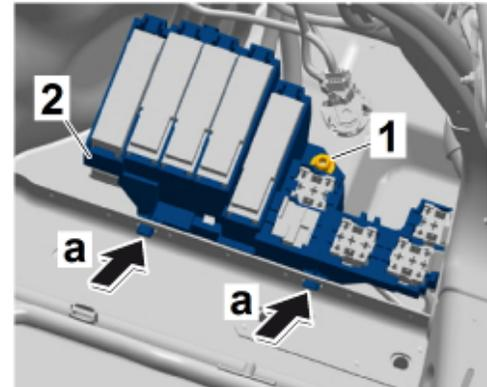

Figure 11
2.5.1 Install fuse box (luggage compartment) into the openings on the longitudinal member (⇒ Figure 11 -a-).